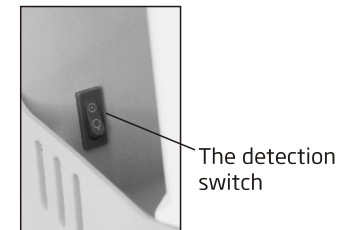

Figure 7
- ▶ The detection switch is on the back of the pannel. (Figure 7)